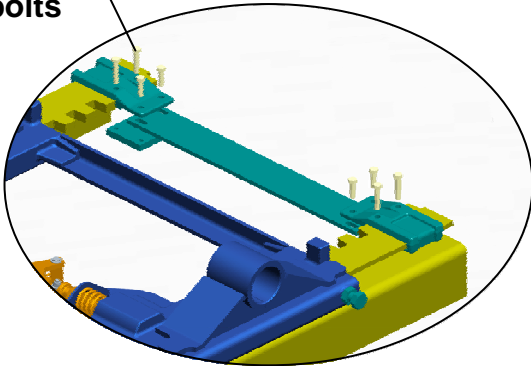

FIGURE 2
- a) Remove (8) bolts attaching the rear stops (see figure 2).